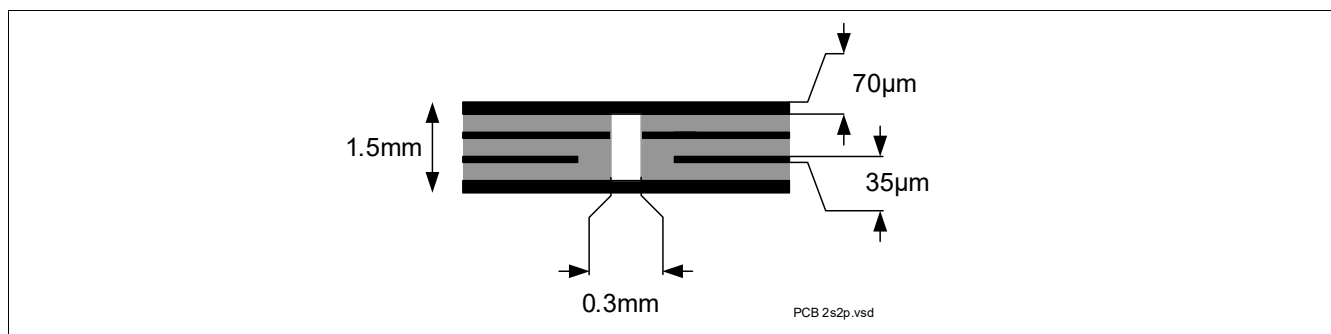

Figure 4 2s2p PCB Cross Section
2) Specified R_{thJA} value is according to JEDEC JESD51-2,-5,-7 at natural convection on FR4 2s2p board with 1 W total power dissipation at $T_A=105^{\circ}\text{C}$; The product (chip + package) was simulated on a 76.4 x 114.3 x 1.5 mm board with 2 inner copper layers (2 x 70 μm Cu, 2 x 35 μm Cu). Where applicable, a thermal via array under the exposed pad contacts the first inner copper layer. Please refer to Figure 4.